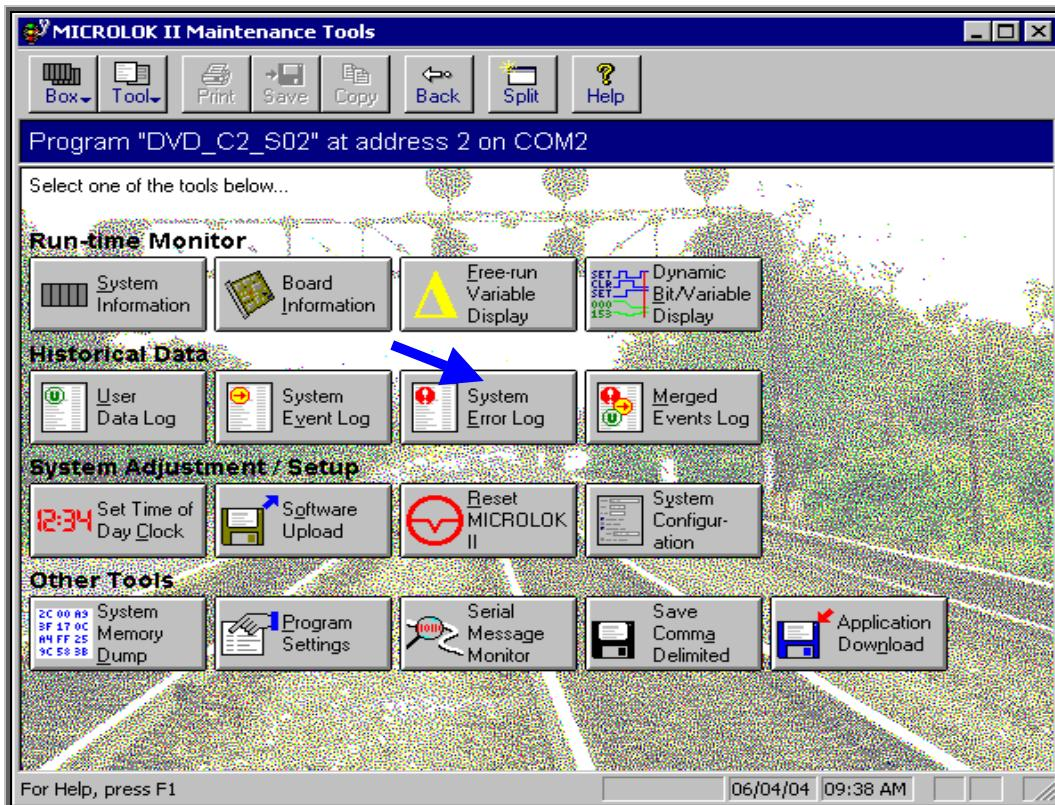

Figure-5.6.4.1
- ❖ To view the system error log, click on the “System Error Log” button on the Maintenance Tools main menu (Figure-5.6.4.1).
- ❖ A typical error log display appears as shown in Figure-5.6.4.2.